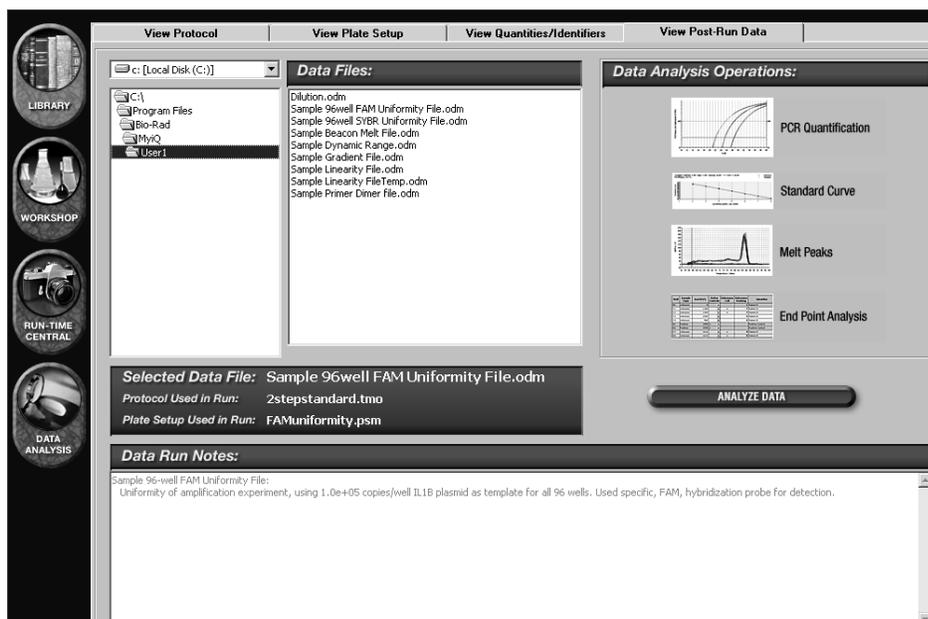

Fig. 4.5. Library / View Post-Run Data Window.
- **View Post-Run Data:** Allows the navigation of stored data files. Displays any notes entered by the user. Permits opening of stored data files (see Figure 4.5). Stored data files may be opened by double clicking the file name or clicking **Analyze Data**.